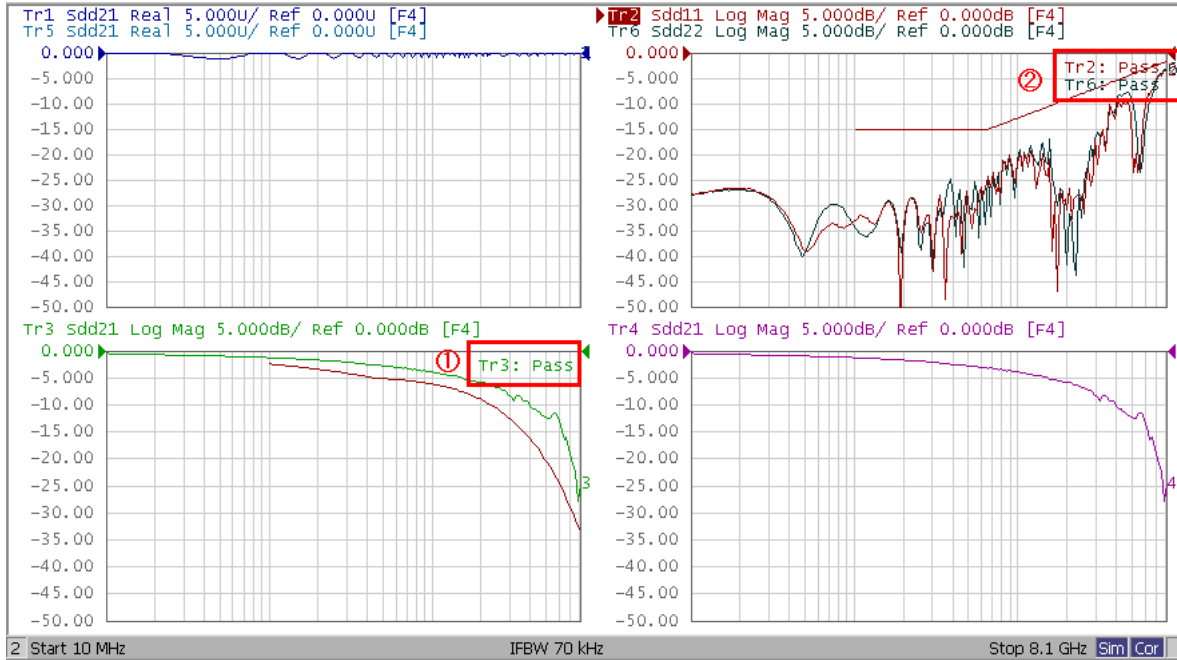

Figure 5-4: Frequency Domain Measurement Example
Read Pass/Fail signs on Trace 3. (item 1 in Figure 5-4).
Read Pass/Fail signs on Trace 3. (item 2 in Figure 5-4).